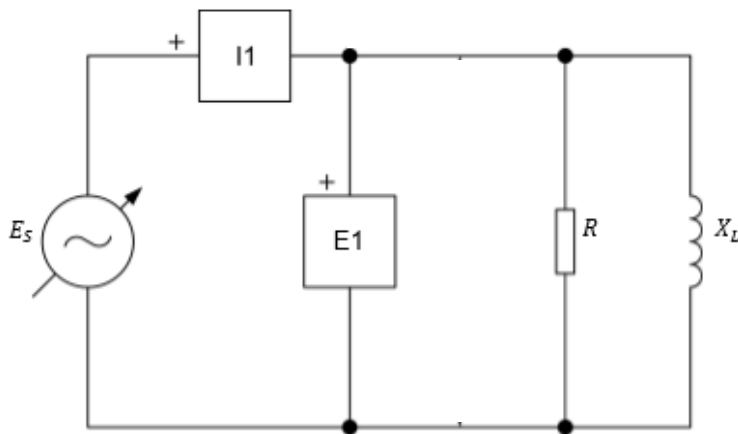

Figure 1
1. Set up the circuit shown in Figure 1 below: Note the square boxes are used to indicate voltage and current measurements. **For Lucas-Nuelle Equipment, the procedure is essentially, but the equipment is obviously different.**